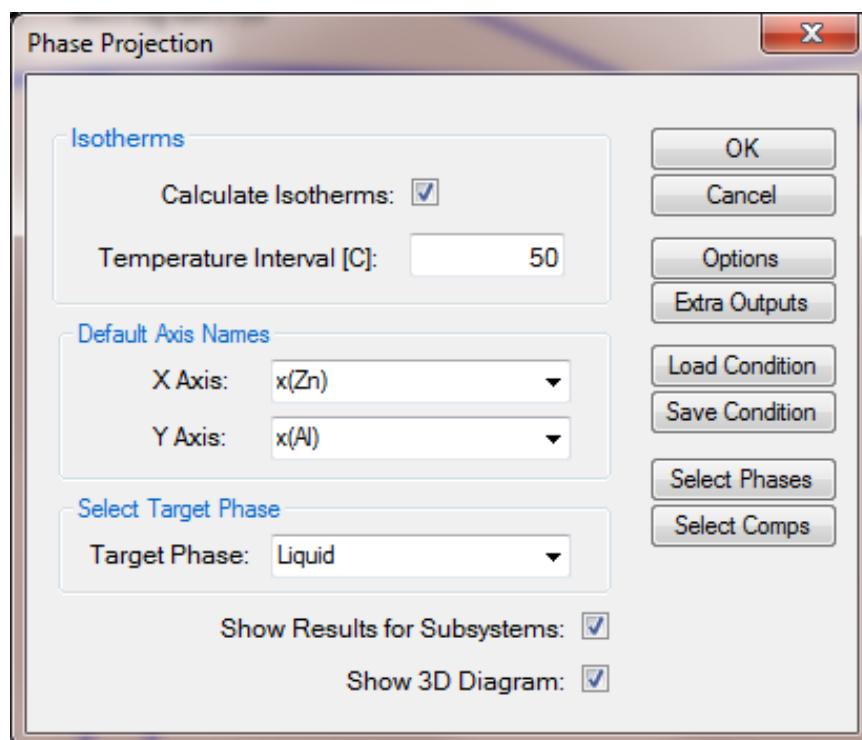

Figure 1.7.1: Calculation of liquidus projection of the Al-Mg-Zn system
- Set Calculation Condition as shown in Figure 1.7.1;